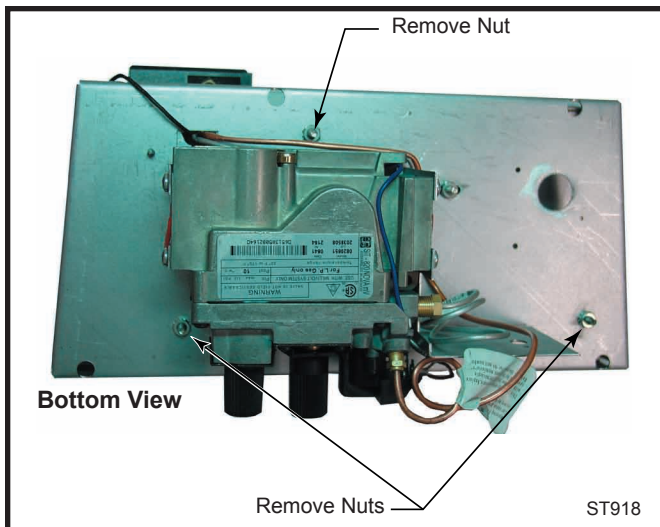

Fig. 13 Remove three (3) nuts securing ember bed in place.
1. Remove three (3) 3/8" nuts on bottom side of burner pan. (Fig. 13)
2. Thread and tighten 3/8" nuts back onto pem studs on underneath side of control panel, reversing Step 1 shown in Figure 13.